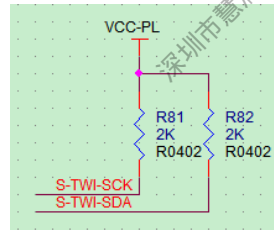

Figure 2-57 I2C Circuit Design
- The I2C of the SENSOR needs to connect to pull-up resistors and cannot delete them, as shown in Figure 2-57.